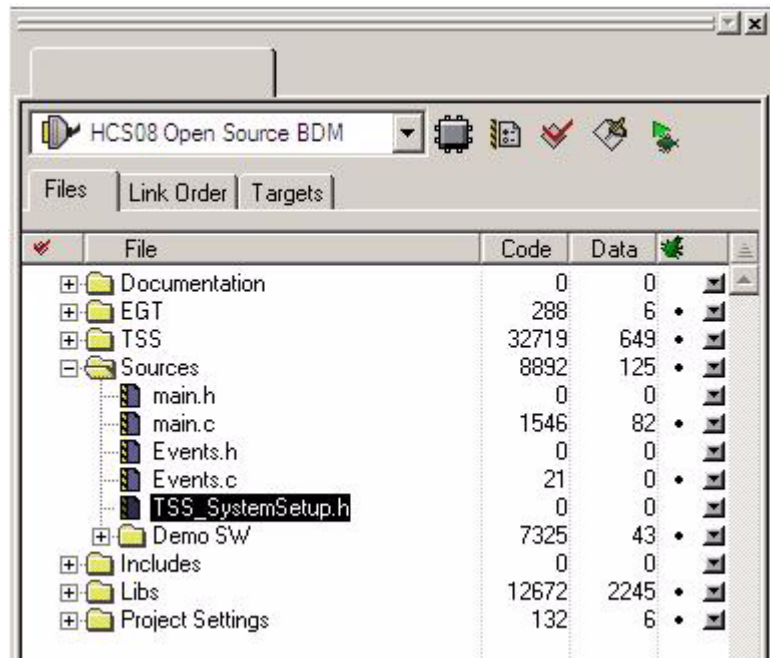

Figure 5. TSS_SystemSetup.h in CodeWarrior
1. Open the project with CodeWarrior, and go to the TSS_SystemSetup.h file (see Figure 5).